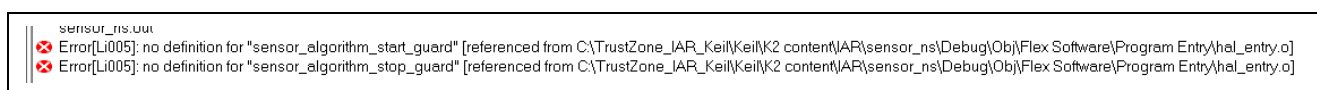

Figure 72. Potential Error Message
10. Return to the EWARM IDE and check if there is a `\Objects` folder under `\Flex_Software` and `secure.o` exists in the `\Objects` folder. If yes, the non-secure project will be compiled with no issue. If not, then the non-secure project will need to be compiled twice. The first compile will issue an error message similar to Figure 72. The second compile process will succeed. This is because there is a timing issue between EWARM and RSAC operations.